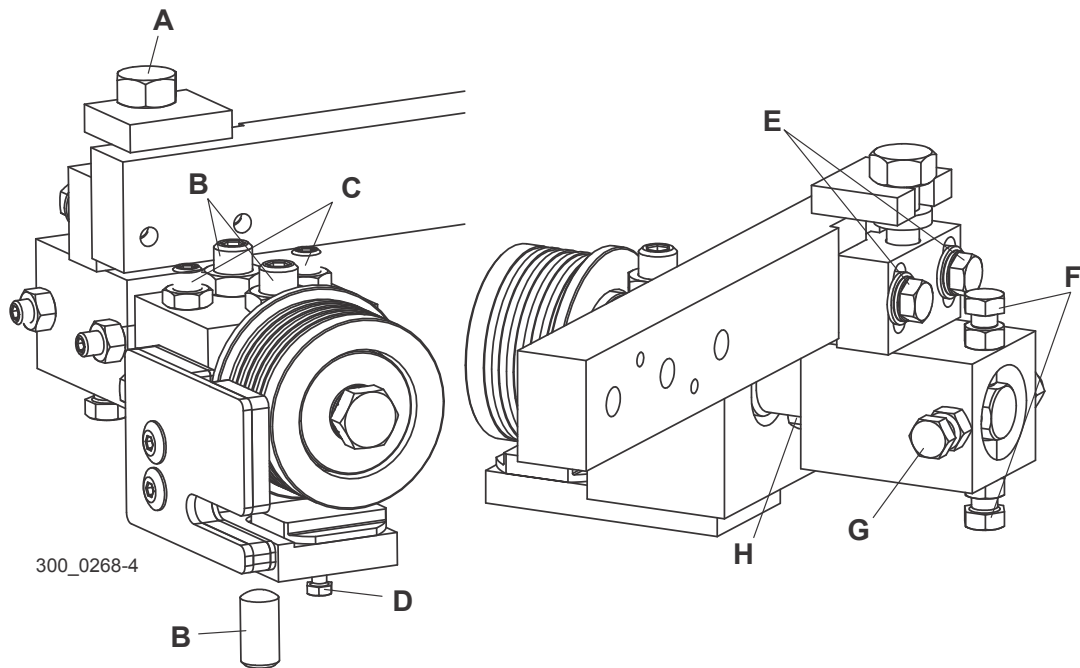

FIG. 3-25
See Figure 3-25. Standard Roller/Block Guides: Move the guide assembly forward until the roller flange is 1/16"-1/8" from the back edge of the blade and tighten clamp bolts (F) and (G). Turn blade guide assembly bolt (A) counterclockwise to lower the guide roller until it deflects the blade down 1/4". Adjust the blade guide screws (B) to raise or lower bottom block to **.008" - .010" from bottom of blade**. Repeat for other blade guide assembly.